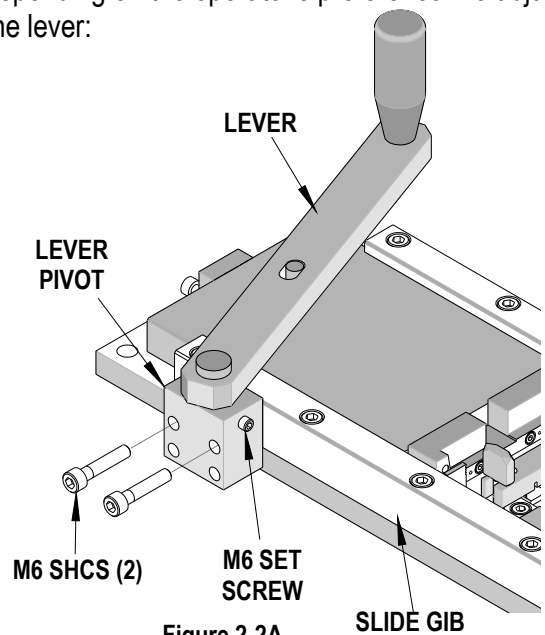

Figure 2-2A
1. Remove the two M6 SHCS from the lever pivot mounted to the side gib. See Figure 2-2A.